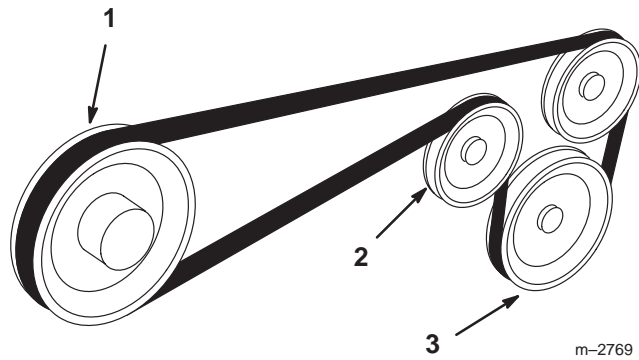

Figure 40
6. Remove rear idler and replace belt (Fig. 40). Install rear idler.